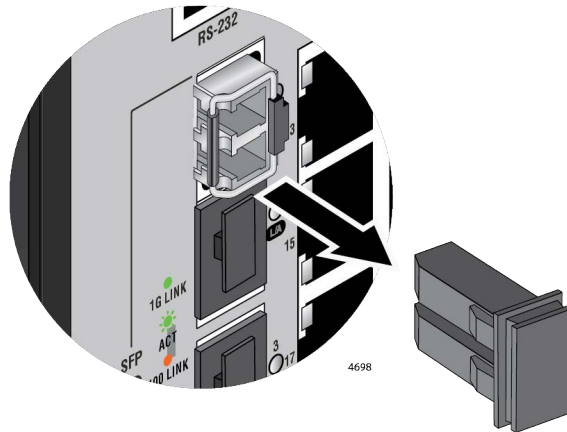

Figure 37. Removing the Dust Cover from an SFP Transceiver
4. Remove the dust cover from the transceiver. Refer to Figure 37.